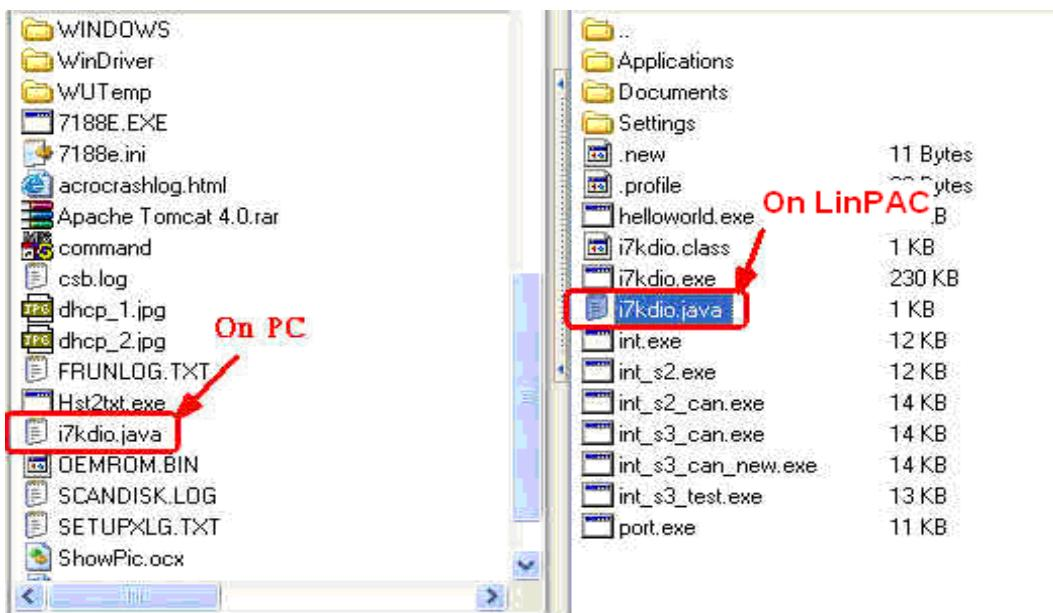

Fig.2-2
(2) Click the “**Connect**” button to connect to the ftp server on the LinPAC-8000. Then upload the file – **i7kdio.java** to the LinPAC-8000. (refer to Fig.2-2).